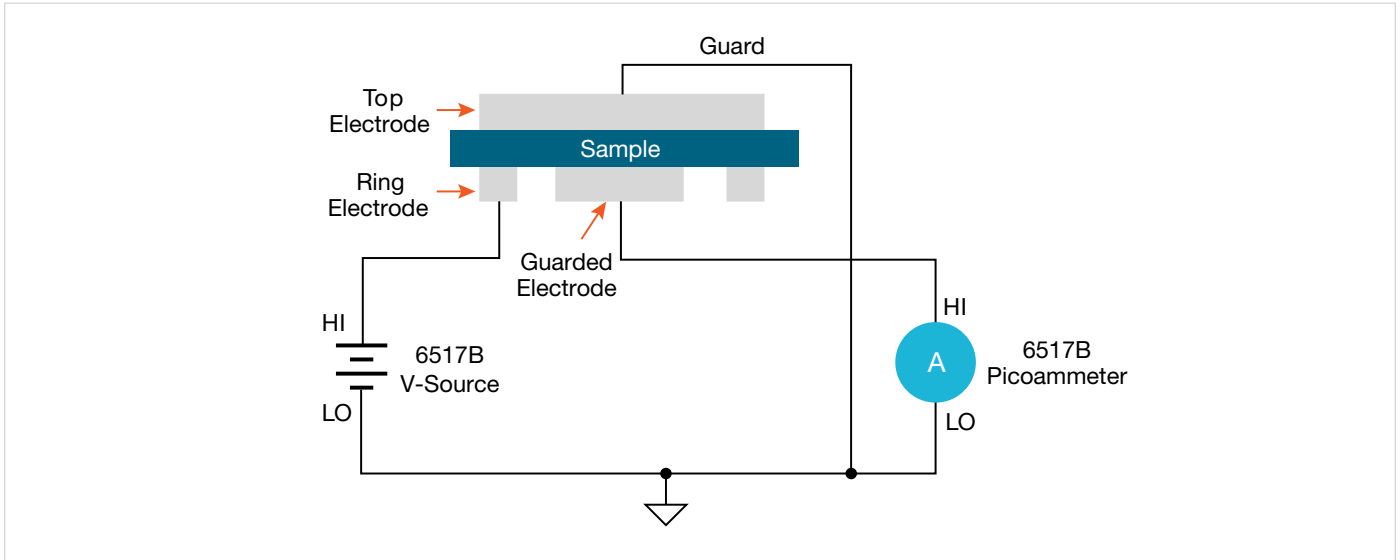
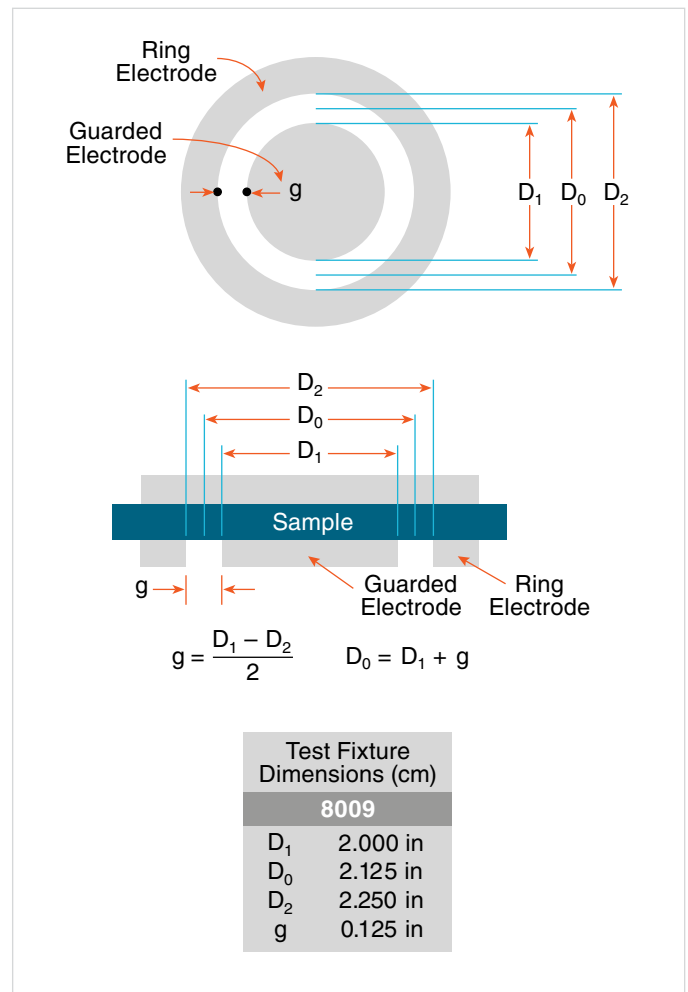
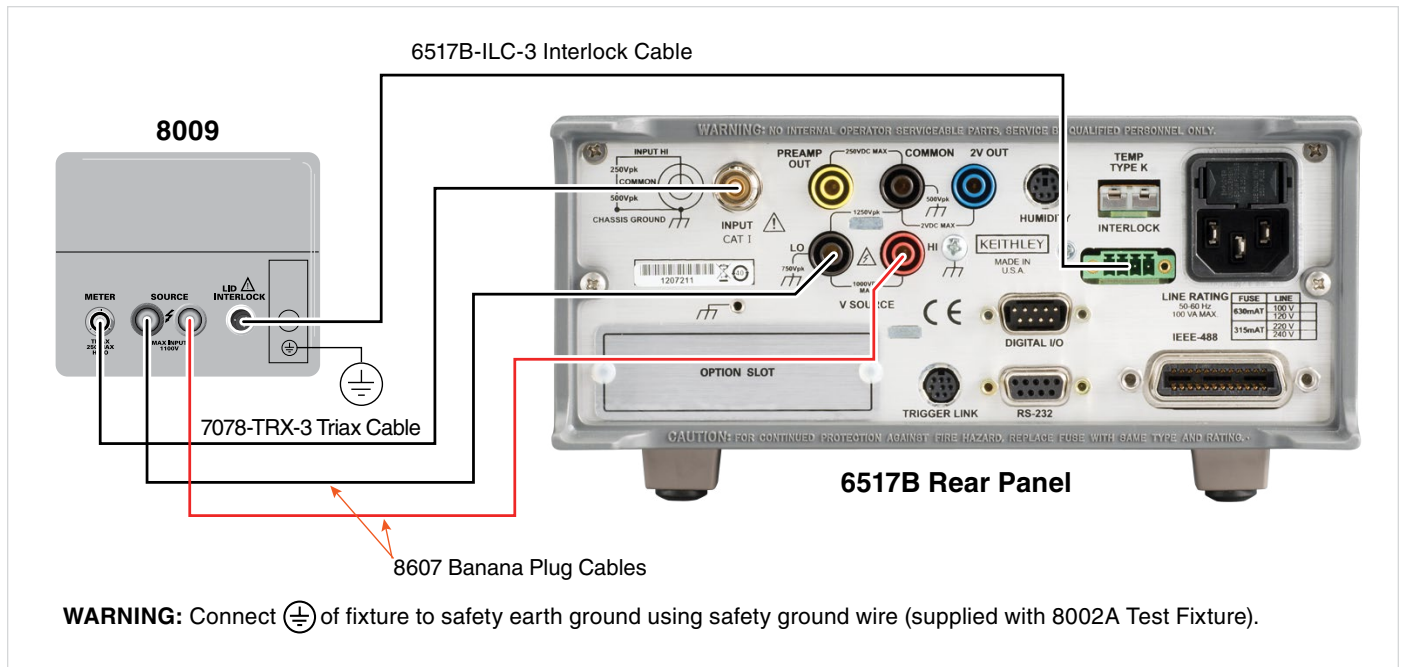

Figure 1. Surface resistivity measurement technique.
Figure 2. Circular electrode dimensions
Figure 4. Connections for measurements using 8009 Test Fixture
Surface resistivity is measured by applying a voltage potential across the surface of the insulator sample and measuring the resultant current as shown in **Figure 1**. The 6517B automatically performs the following calculation and displays the surface resistivity reading:
g = distance between the guarded electrode and the ring electrode (mm). Refer to **Figure 2** to determine dimension g .
$D_0 = D_1 + g$ (refer to **Figure 2** to determine dimension D_0).
1. Refer to **Figure 2** to determine dimensions D_1 and g .
2. An effective area of coefficient (B) of 0 is typically used for volume resistivity.
As discussed, these measurements are made using an electrometer or picoammeter, voltage source, and a resistivity chamber, as shown in **Figure 4.** The 6517B Electrometer includes a 1000 V voltage source that can be used for this application. The 6517B and its predecessor, the 6517A, have a long history in making quality insulation resistivity measurements. The Keithley 8009 Resistivity Chamber contains an electrode configuration like the one shown in **Figure 2.** In the chamber the electrodes are located in a shielded box to minimize stray electrostatic pick-up, which can cause measurement errors. The electrodes are made of stainless steel and are built to ASTM standards and are compatible with the IEC standard.
The standard resistivity test method for an insulator involves applying a voltage step with the V-source for a specified period of time (electrification time). At the end of the electrification time, the current is measured and resistivity can be calculated using the formulas for surface and volume resistivity that are noted earlier in this document. When used with the 8009 Resistivity Test Fixture, the test conforms to the ASTM D-257 and IEC 62631-3-1 standards. **Figures 1 and 3** show the test circuits for the respective measurements, and **Figure 4** shows the connections to the 8009. Refer to the instruction manual for the 8009 to install the insulator sample in the test fixture.
The Alternating Polarity Resistance/Resistivity test is designed to improve high resistance/resistivity measurements. These measurements are prone to large errors due to background currents. These background currents can arise from many sources including: residual currents from previous voltages applied to the sample, and currents generated due to piezoelectric effects, triboelectric effects, temperature, or mechanical stress. By using an alternating stimulus voltage, it is possible to eliminate the effects of these background currents. The built-in Alternating Polarity test sequence will measure surface or volume resistivity or resistance. **Figures 1 and 3** show the test circuits for the respective measurements, and **Figure 4** shows the connections to the 8009. Refer to the 8009 Instruction Manual for information on installing the sample in the test fixture.